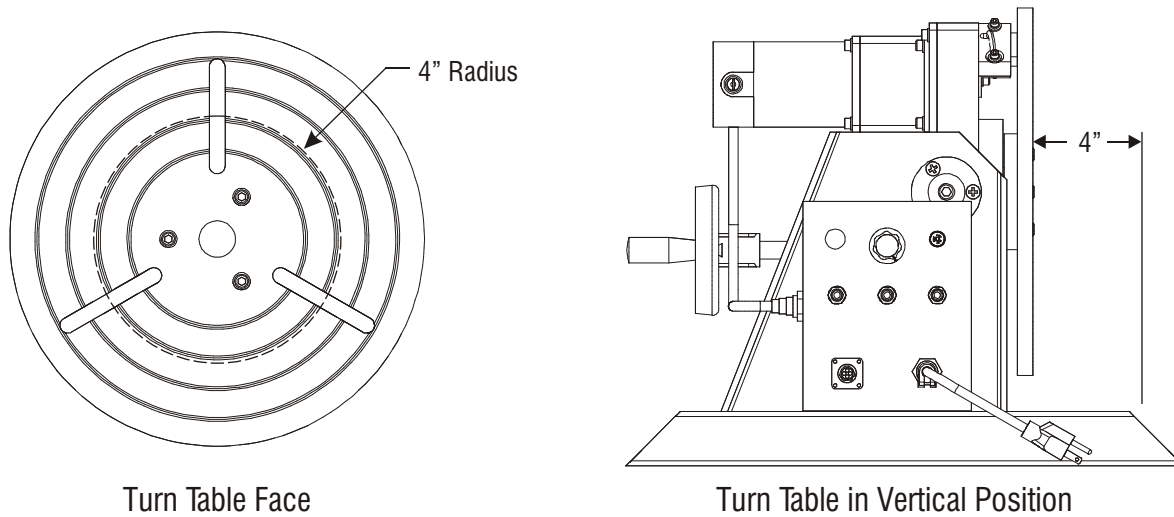

Figure No. 2
3. Mount the work piece to the turn table making sure that the center of gravity is within 4" of the center of the turn table as shown in figure No. 2.